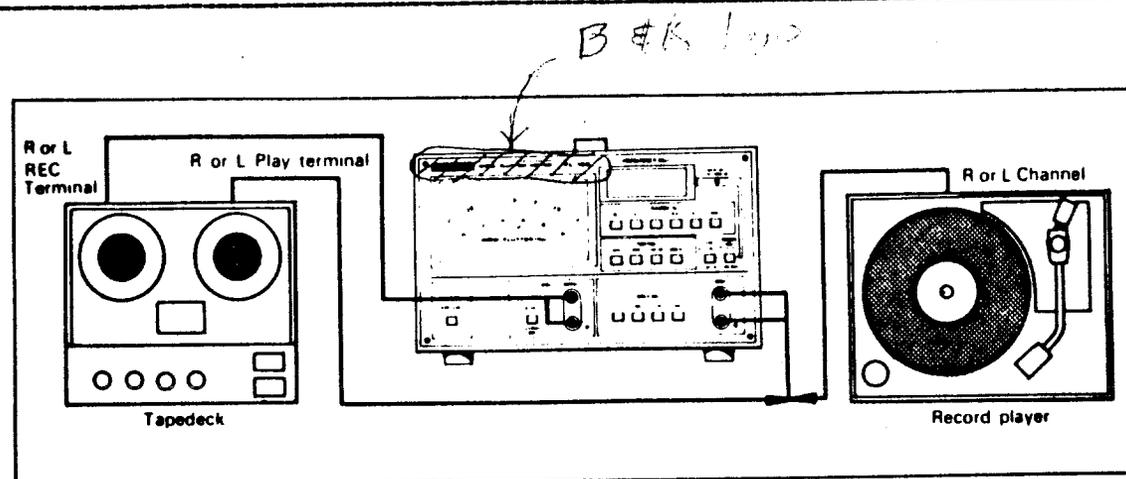

Fig. 4. Input and Output Connections to Wow &amp; Flutter Meter.
- a. Connect cable from **OSC OUTPUT** terminals to input of recorder (see Fig. 4).
3. Connect output of equipment to be tested, such as tape recorder or turntable, to **INPUT** terminals (see Fig. 4).